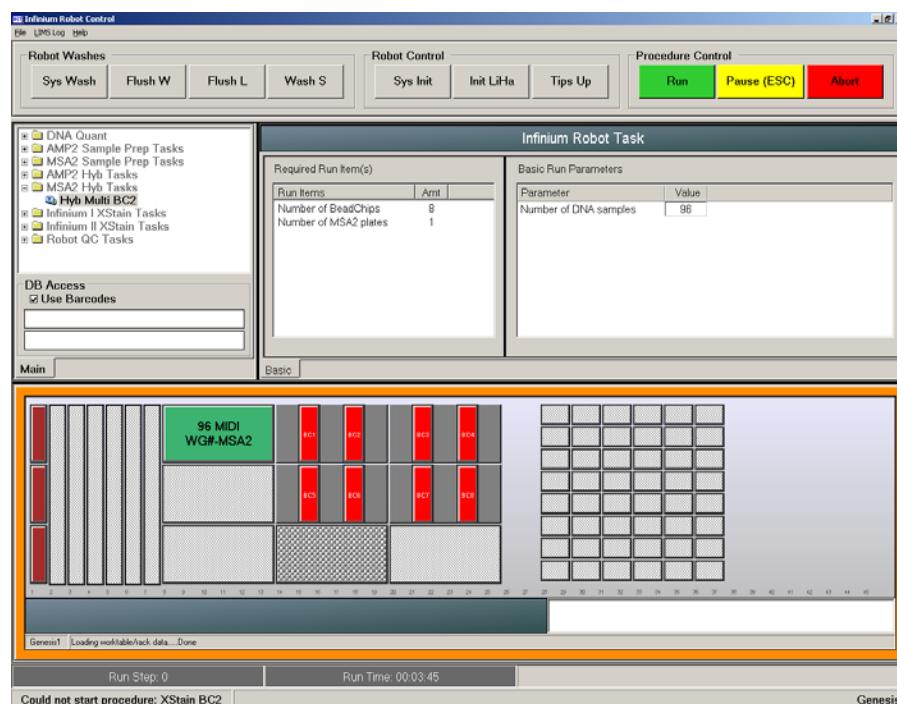

Figure 119 Hyb Multi BC2 Screen
8. Place the Robot BeadChip Alignment Fixtures onto the robot bed according to the bed map (Figure 119).